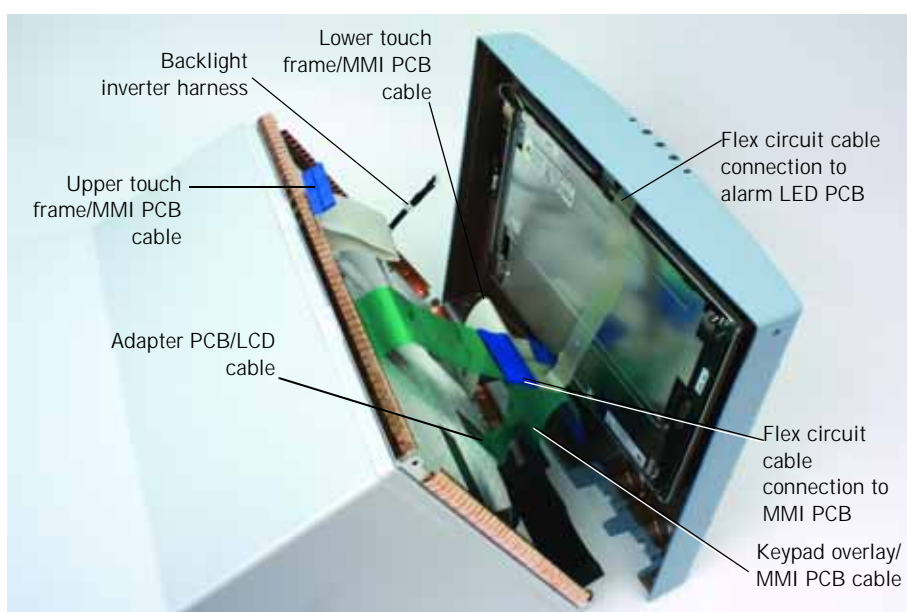

Figure 10-7: Removing GUI - Step 2
4. Carefully separate the GUI bezel from the ventilator. Disconnect the interconnecting cables and harnesses from the GUI in this order (Figure 10-7):